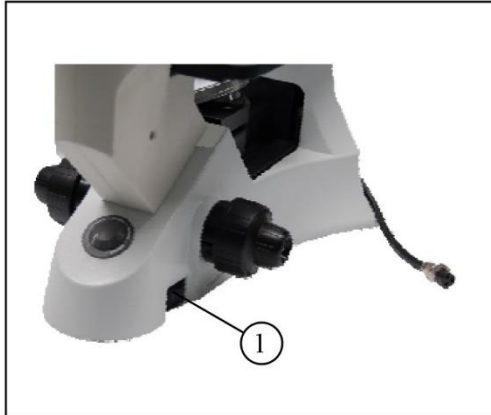

Figure 15
3.1.1. Turning on the lamp (Figure 15)